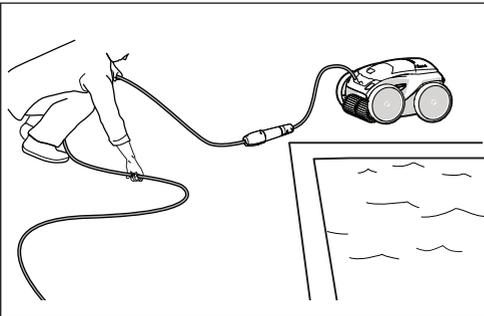

Figure 10. Untangle the Floating Cable
4. Remove the cleaner from the pool and untangle all kinks and coils in the power cable. Start at the cleaner head. Lay the cable in the sun to loosen any tangling memory. See Figure 10.